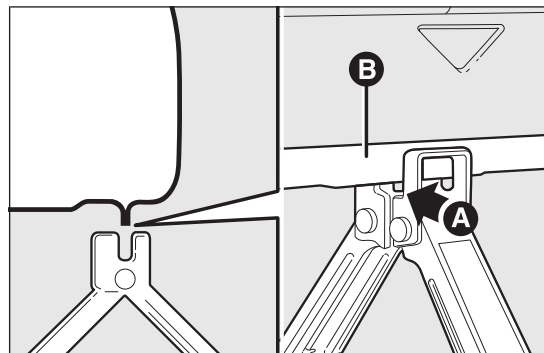

fig. 134
- turn the jack to open it until the groove A fig. 134 of the jack is correctly inserted in the lower